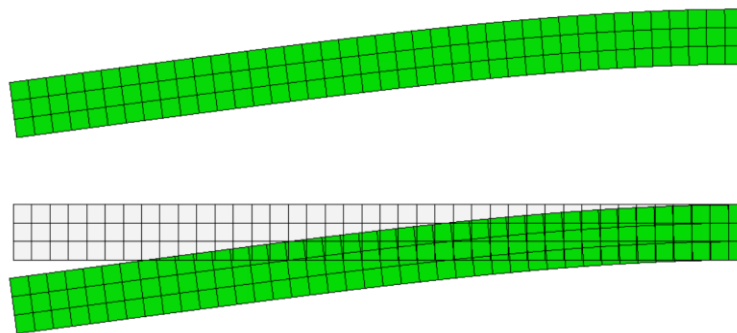

Figure 2-31 – Deformed model shape.
1. In the toolbox, click  (or select **Plot** → **Deformed Shape** from the main menu bar) to view a deformed model shape plot, as shown in Figure 2-31.